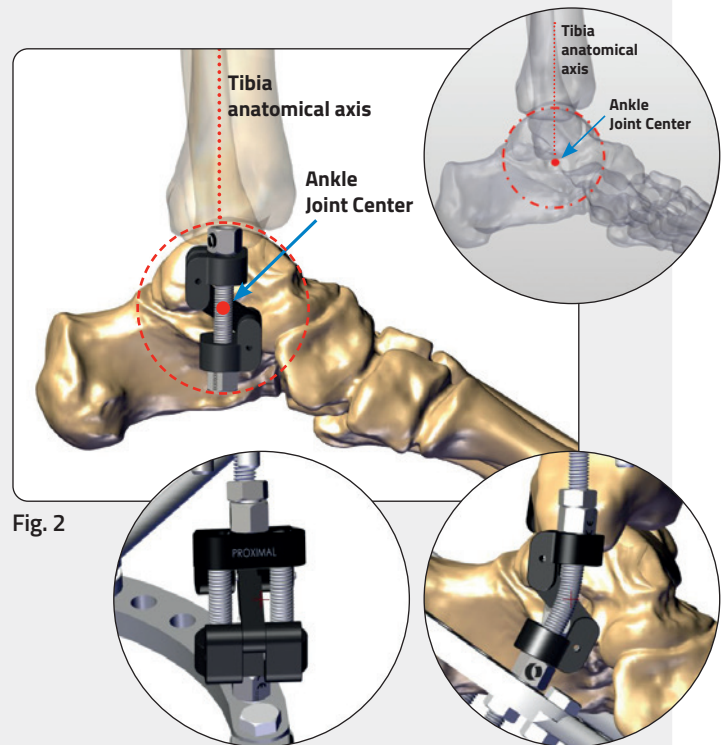

Fig. 2
- Align the central area of the Tornado Hinge spring with both the anatomical axis of the tibia and the ankle joint center of rotation **Fig. 2**.